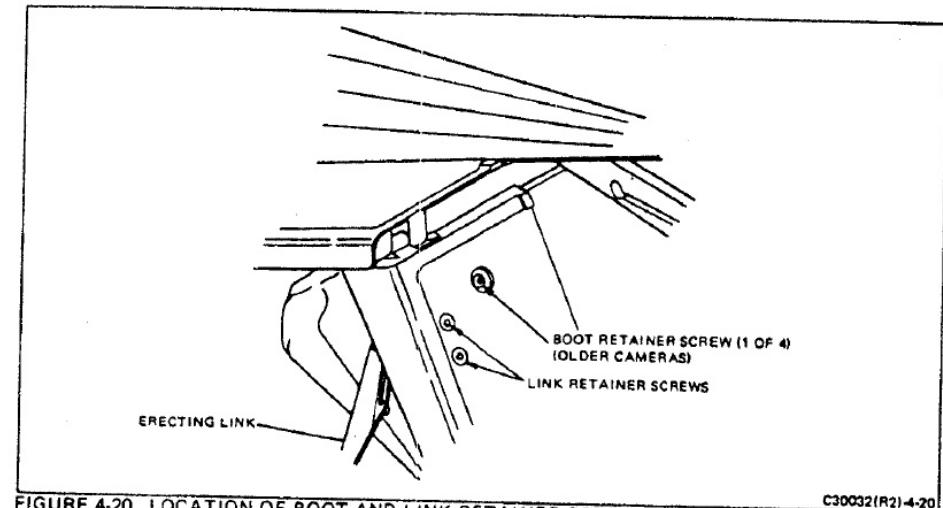

FIGURE 4-20 LOCATION OF BOOT AND LINK RETAINER SCREW
7. Refer to Figure 4-20. Remove the two link-retaining screws.
8. Remove the boot-retaining screw indicated in Figure 4-20.
- Install the three screws through the mirror cover to secure the erecting link (Figure 4-20).